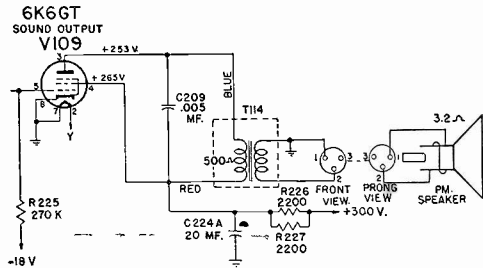

Fig. 1. The speaker circuit of the Crosley Models 9-408 and 9-408(50).
These receivers are substantially the same as Models 307TA and 307TA(50) which appear in Rider's TV Manual Volume 1 on pages 1-1 through 1-17,18. They differ in certain parts of the over-all circuit. In the speaker circuit, models 9-408 and 9-408(50) employ a three-prong plug and cabled socket to connect the speaker to the output transformer. Also the hum bucking coil has been omitted. See Fig. 1.